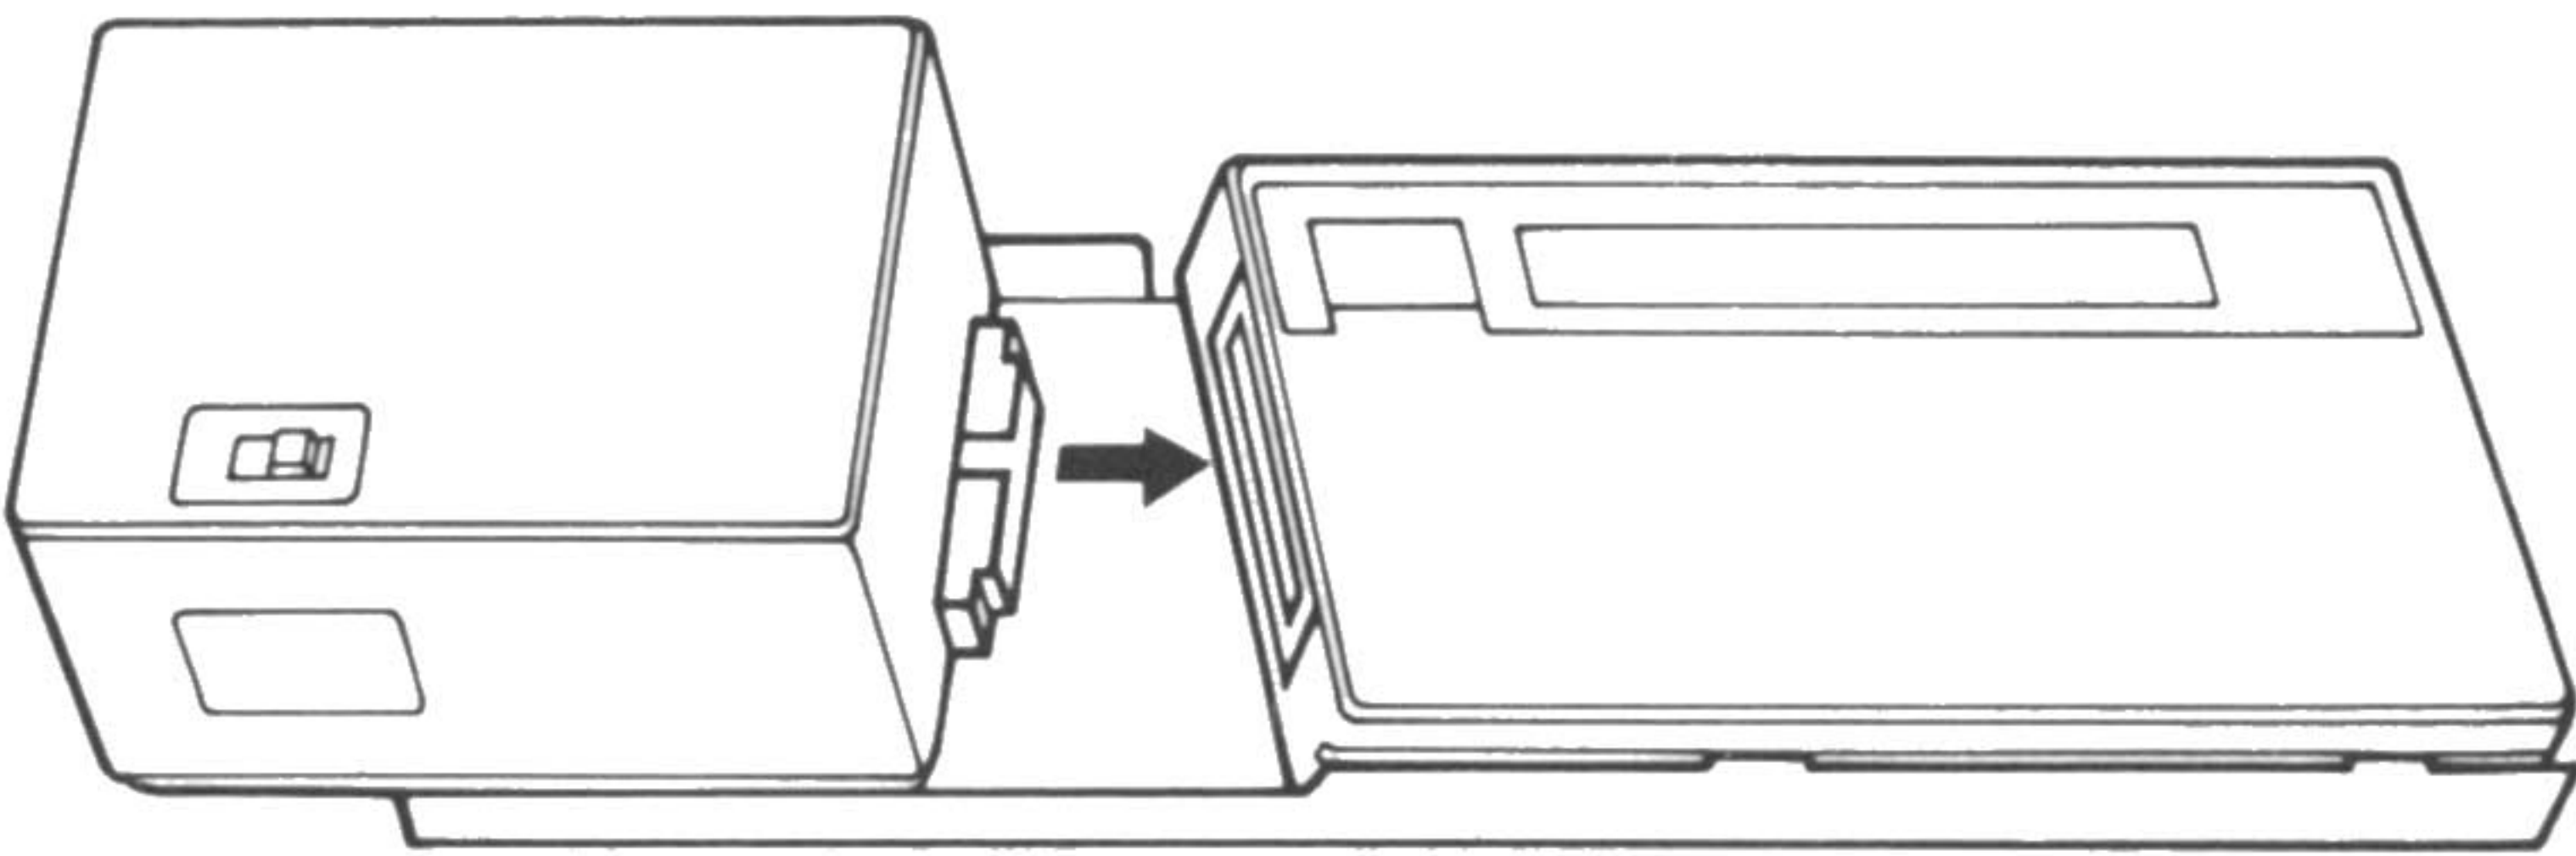

Figure 3. Connecting the PC-2 to the RS-232C Interface.
3. Slide the RS-232C Interface onto Metal Support Bracket A so that the RS-232C 60-Pin connectors are connected. (See Figure 3.)